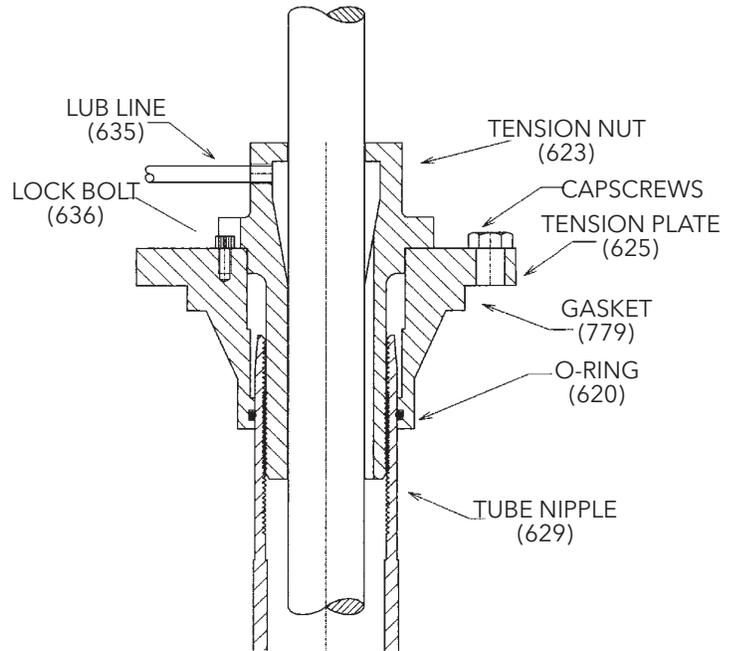

Figure 10
1. The driving mechanism of all hollow shaft driver is shown on Figure 10. The driveshaft (608) extends up through the quill or hollow shaft of the driver and is held in place by an adjusting nut (604), which not only carries all the static and hydraulic thrust of the impellers and shaft but also provides the adjustment for the impeller clearances. The head shaft is connected to top shaft (or stub shaft) by a threaded coupling or a rigid flange coupling.
6. After lowering and orienting the driver as explained above, remove the drive coupling and the hold down bolts (See Figure 10). **Be sure to mark the location of the coupling before remove it.**
NOTE: Shaft adjustment up or down is accomplished by turning the adjusting nut (604) Figure 10.